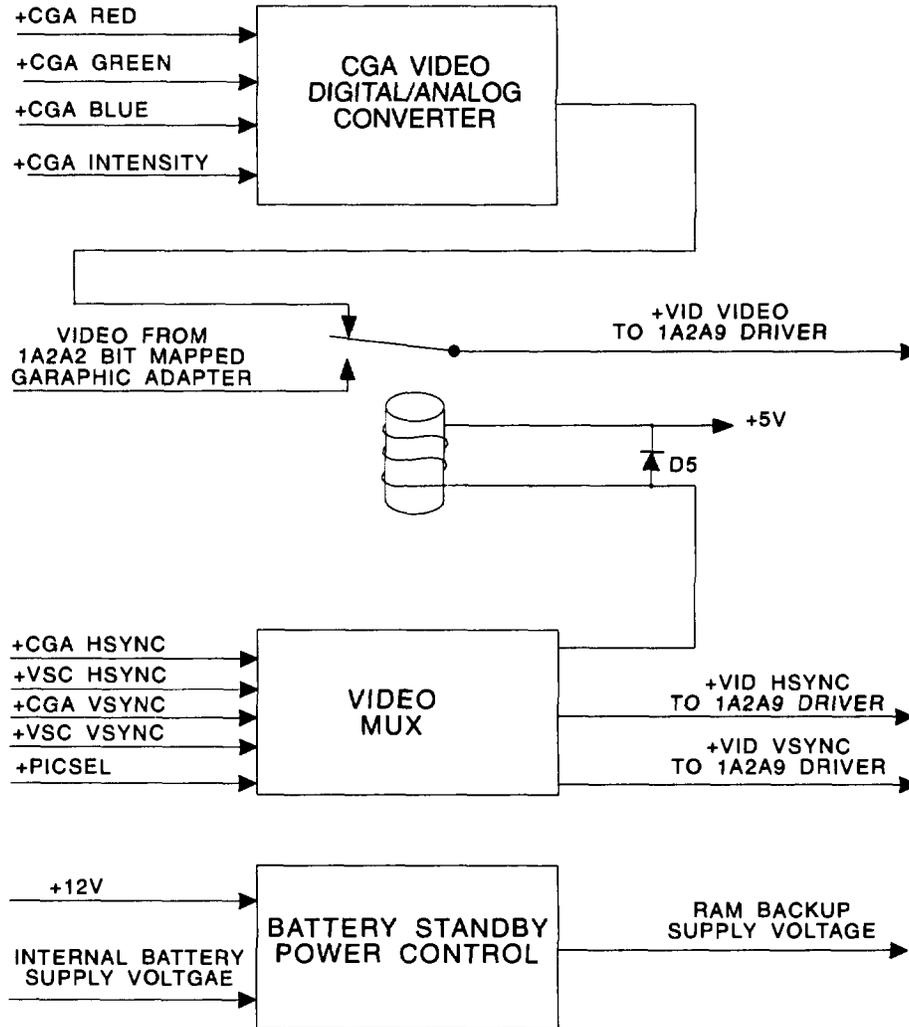

Figure 1-11. Backpanel CCA Functional Block Diagram.
- j. **1A2A11 Backplane CCA.** This CCA (fig. 1-11) is also referred to as the Motherboard, provides distribution of the system address, data, and control bus between the 1A2A2 Bit Mapped Graphic Adapter, 1A2A3 Processor, 1A2A4 Data Acquisition System, 1A2A5 Special Input/Output, 1A2A6 General Input/Output, 1A2A7 Color Graphics Adapter, and 1A2A12 RAMCARD Interface CCAs. Additionally, all interconnection between the assorted boards and the front and back panels are routed via the Motherboard. In fact, the Rear Panel CCA is an extension of the Motherboard which holds the instrument's rear panel connectors. The signals on the schematics of the Motherboard referring to 1A2A2 Bit Mapped Graphics Adapter are prefixed VSC for (Vectorscan).